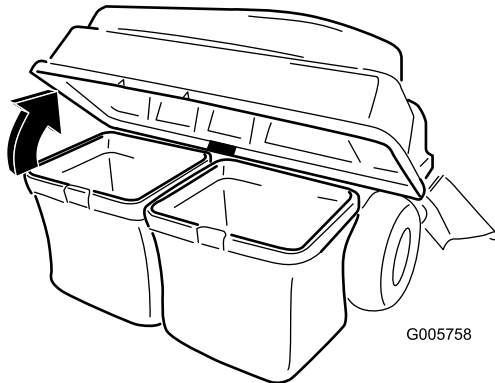

Figure 22
3. Open (raise) the bagger top (Figure 22).